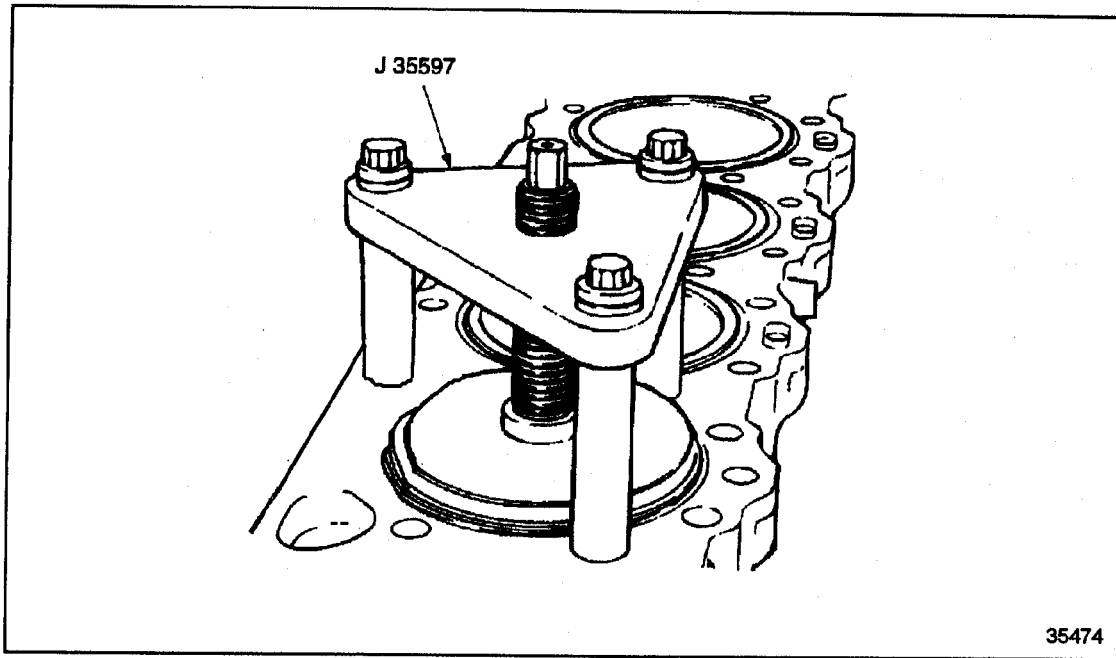

Figure 1-276 Cylinder Liner Installation Tools
20. Install J 35597, over the kit to be installed. See Figure 1-276.
25. Install a dial indicator sled gage. See Figure 1-276.